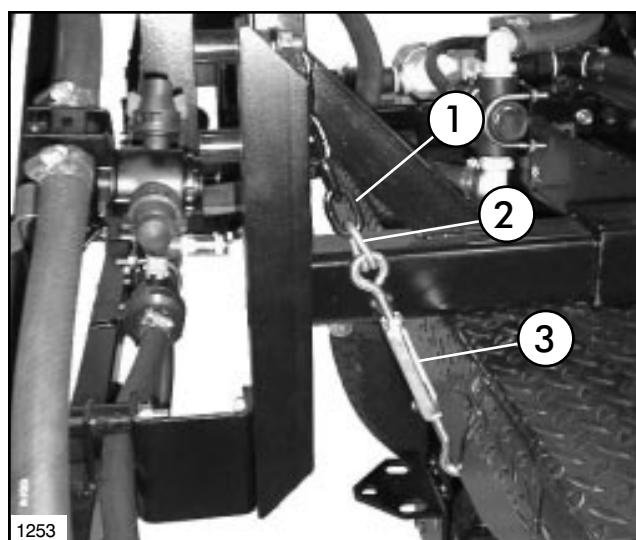

FIG. 17
28. Connect closed end of Turnbuckle to the Lug & Chain using (1) Lap Link. Secure by squeezing Lap Link closed. See FIG. 17.